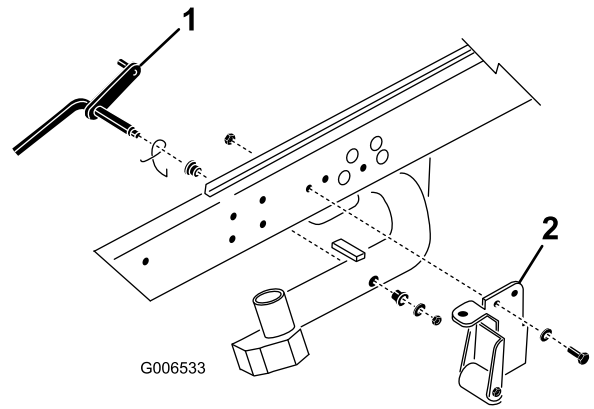

Figure 3
1. Remove the lock nut and washer securing the pivot rod to the #2 lift arm (Figure 3). Remove the pivot rod and spring from the lift arm. Repeat the procedure on the #1 and #3 lift arms.
Note: The tipper bracket with the roller and the tipper support brackets are not required when operating the DPA cutting units (Figure 3). They may be removed if desired.